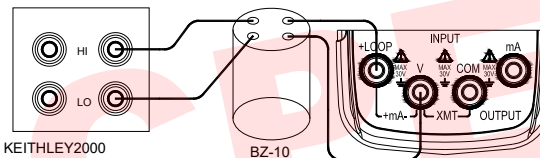

Figure 10-1
- 3) Connect to the Instrument as shown in Figure 10-1;
- 6) Press the key (100%/START) , and the LCD displays 'SAVE ', denoting that the calibrated point has been stored;